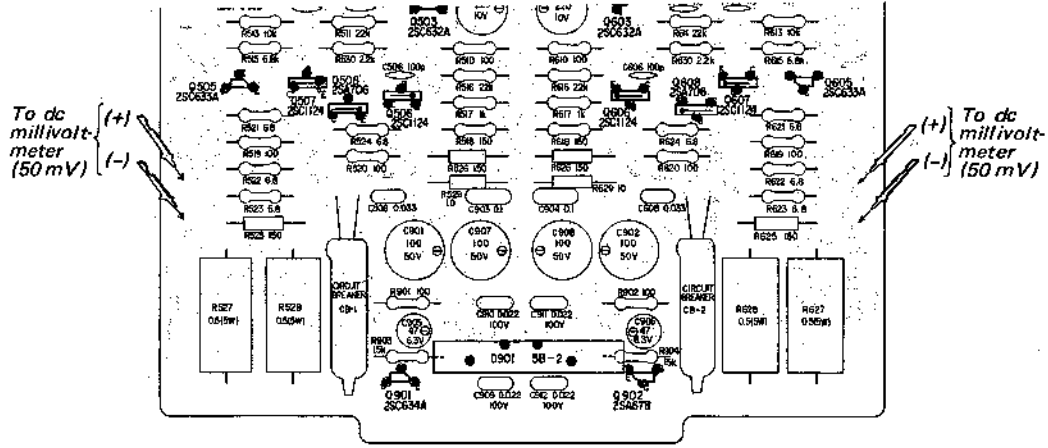

Fig. 3-1. Dc millivoltmeter connection
To avoid accidental power transistor damage, increase the ac line voltage gradually, using a variable transformer, while measuring the voltage across test points as shown in Fig. 3-1. Check to see that the reading does not exceed 50mV. If it does, turn off the power as soon as possible, then check and repair the trouble in the power amplifier board.
2. Connect the dc millivoltmeter across the test terminal post as shown in Fig. 3-1.